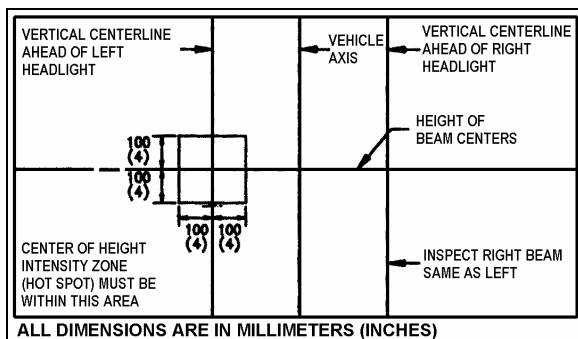

**FIGURE 27: HIGH-INTENSITY ZONE (SHADED AREA) OF A PROPERLY AIMED UPPER BEAM ON THE AIMING SCREEN 7.6 M (25FT) IN FRONT OF VEHICLE**
6. Low beam headlights are aimed so that the top edge (the cutoff) of the high-intensity zone is at the vertical location as per Table 1 and the left edge of the high-intensity zone is at the vertical centerline of the headlight (Fig. 27).